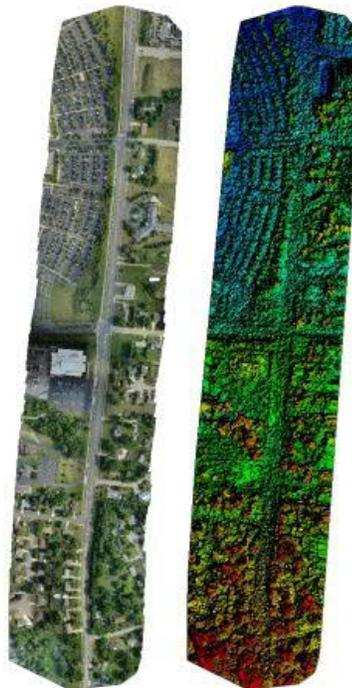

Figure 8 Quality Report Section of the report
- a. Quality Check section: Make sure that “Dataset” row says: “150 out of 150 images calibrated (100%), all images enabled”. If it doesn’t, then you have some of the imagery were not utilized in the solution. Also the “Georeferencing” row has the statement: “9 GCPs (9 3D)”. If it doesn’t, then you have some of the GCPs were not utilized in the solution. (see figure 8)
- b. Preview section: Make sure that ortho mosaic and the DSM look normal as in Figure 8.